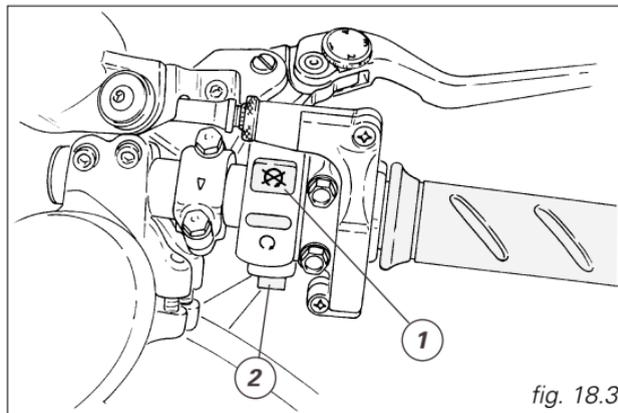

fig. 18.3
3) Check that the stop switch (1, fig. 18.3) is positioned to **○ (RUN)**, then press the starter button (2).